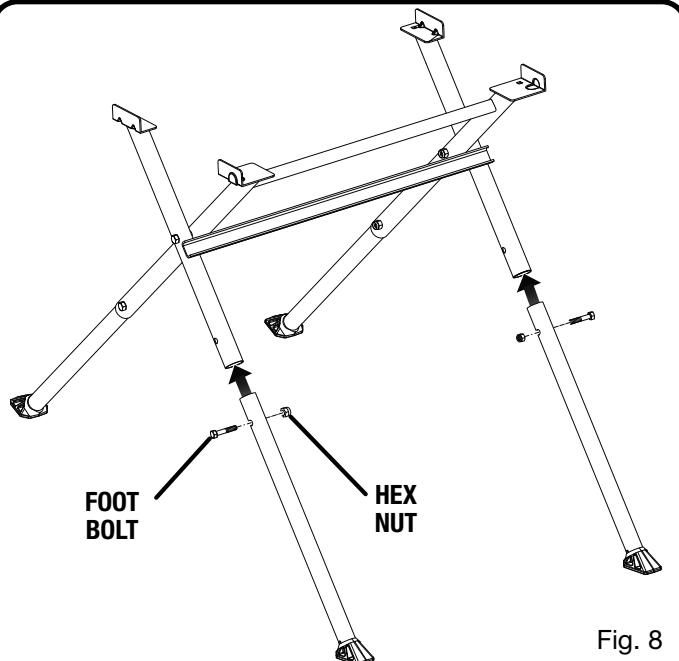

Fig. 8
- NOTE:** The feet should point away from the assembly as shown in figure 8.